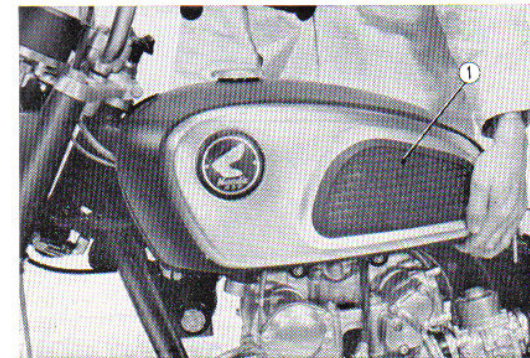

Fig. 4.33 Installing the fuel tank
- ① Side cover ② 6×8mm hex bolt
③ Full tank
3. Fit the front and rear rubber cushions to the frame body. The front rubber cushion should be inserted by pushing the fuel tank from the rear. Install the fuel tank rear bracket on the rear cushion. (Fig. 4.33)